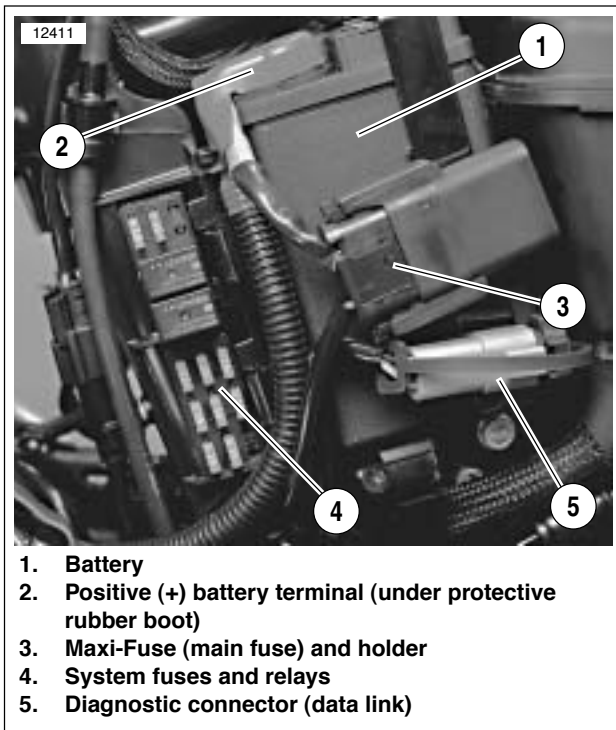

Figure 1-9. Maxi-Fuse and Battery Location
See Figure 1-9. The left side cover provides access to the battery (1), fuses (3, 4) and diagnostic electrical connector (5). No tools are required to open or close the cover.